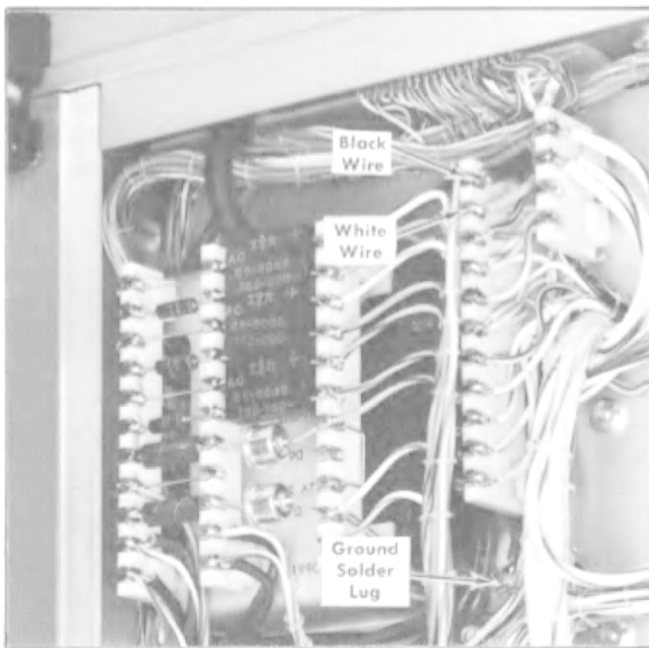

Fig. 2-2. Bottom view of the Type 568 showing the location of the ground lug and input connections required for changing the power cord.
- b. Unsolder the ground wire (green) from the solder lug located near the front of the power transformer (see Fig. 2-2).
- f. Install the power cord through the hole in the rear panel and solder the leads to the terminals from which the previous power cord was removed (see Fig. 2-2).